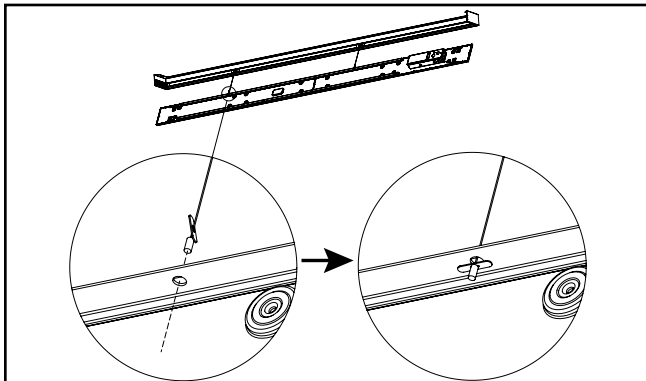

Figure 8.
- A8. Hang the fixture from the 2 tethers by inserting the toggle through the second from the outermost holes in one of the T-rails on the back of the fixture. (Figure 8.)